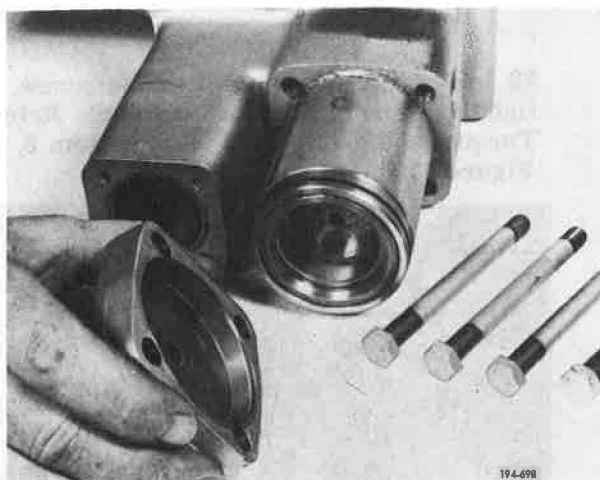

Figure 5-857. Installing Cover
14. Install Hi/Direct shift cover onto Hi/Direct shift cylinder. See Figure 5-857.